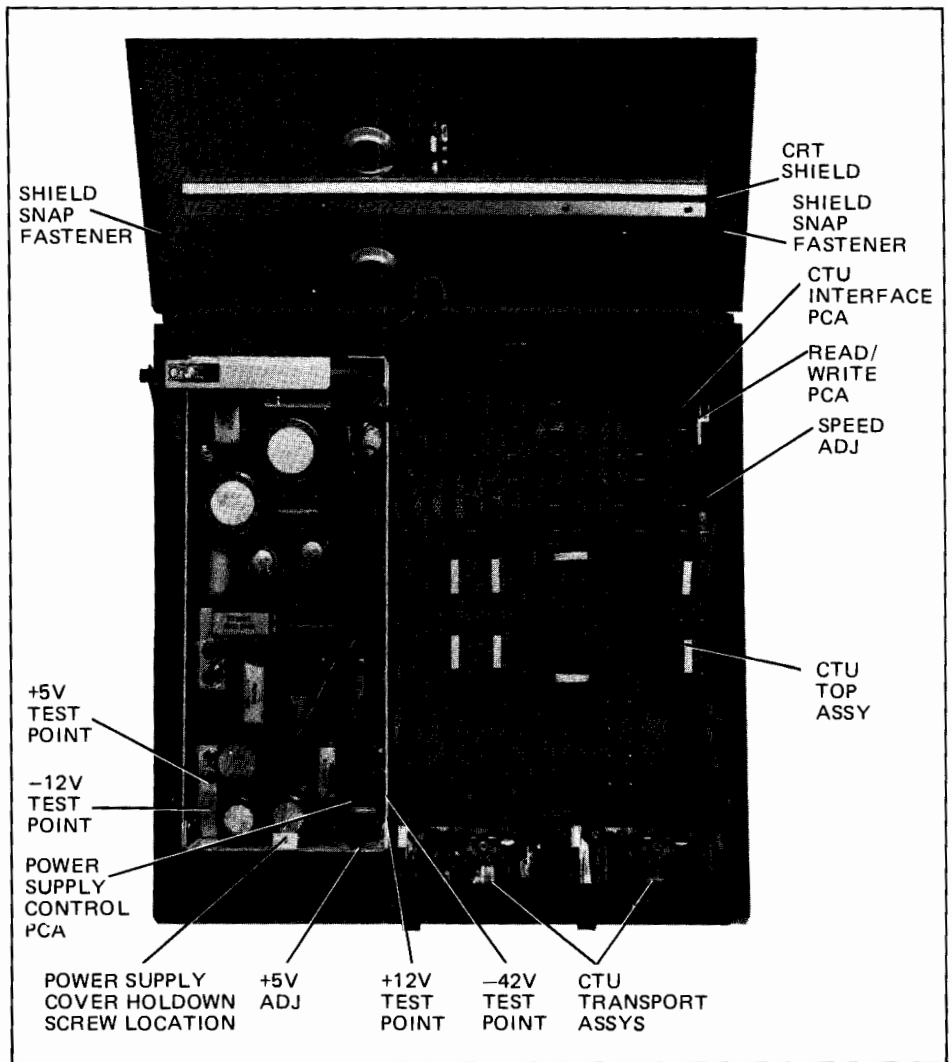

Figure 5-1. Mainframe Bottom Test Point and Adjustment Locations
PROCEDURE	<ol style="list-style-type: none">1. Open the terminal, and remove power supply cover by loosening the cover holddown screw (figure 5-1).2. Turn on ac power to terminal, and ensure that neither cartridge tape transport motor is running (if installed).3. Check the voltages at the following points with the multimeter. (See figure 5-1.)
- a. Pull out on the two nylon snap fasteners on each side of the shield (figure 5-1).